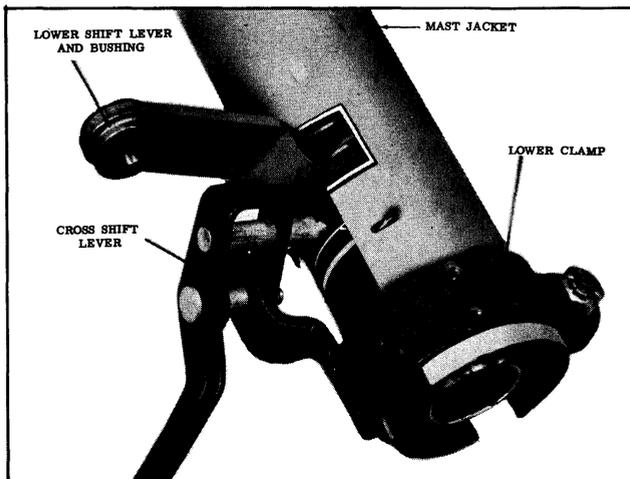

Fig. 5-90 Syncro-Mesh Shift Levers
NOTE: If car is equipped with Syncro-Mesh, remove cross shift lever from lower clamp. (See Fig. 5-90)
**NOTE:** If car is equipped with Syncro-Mesh, remove cross shift lever from lower clamp. (See Fig. 5-90)